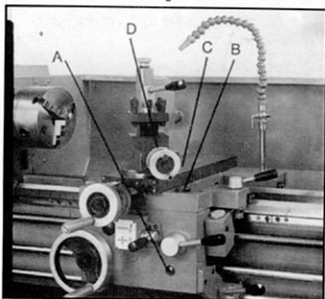

Fig.5
- 4. Apron**-Oil must be up to indicator mark in oil sight glass (front of apron-A, Fig.5). Top off with Shell Turbo T-68 or equivalent. Remove oil cap (B, Fig.5) on top of apron to fill. To drain, remove drain plug on bottom of apron. Drain oil completely and refill after the first three months of operation. Then, change oil in the apron annually.
- 6. Cross Slide**-Lubricate three oil ports (C, Fig.5) with 20W machine oil once daily.
- 7. Compound Rest**-lubricate one oil port (D, Fig.5) with 20W machine oil once daily.